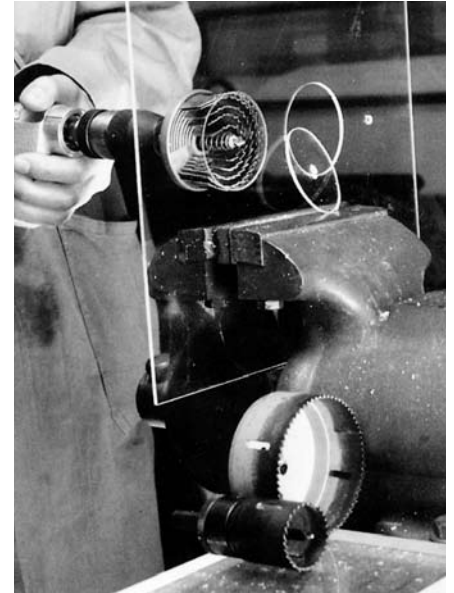

Fig. 17: "Slugger" cutter and hole saw
- "Slugger" cutter or hole saw (Fig. 17)